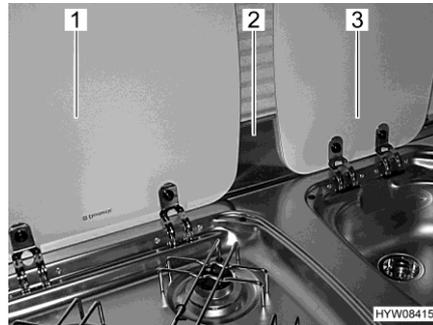

Fig. 136 Flame protection and covers
**Flame protection** Before cooking, the flame protection (Fig. 136,2) must be attached to the window frame. The flame protection protects the area between the covers for the sink (Fig. 136,3) and the gas cooker (Fig. 136,1).
- Attach the flame protection (Fig. 136,2) to the window frame.
- Open the gas cooker cover (Fig. 136,1).